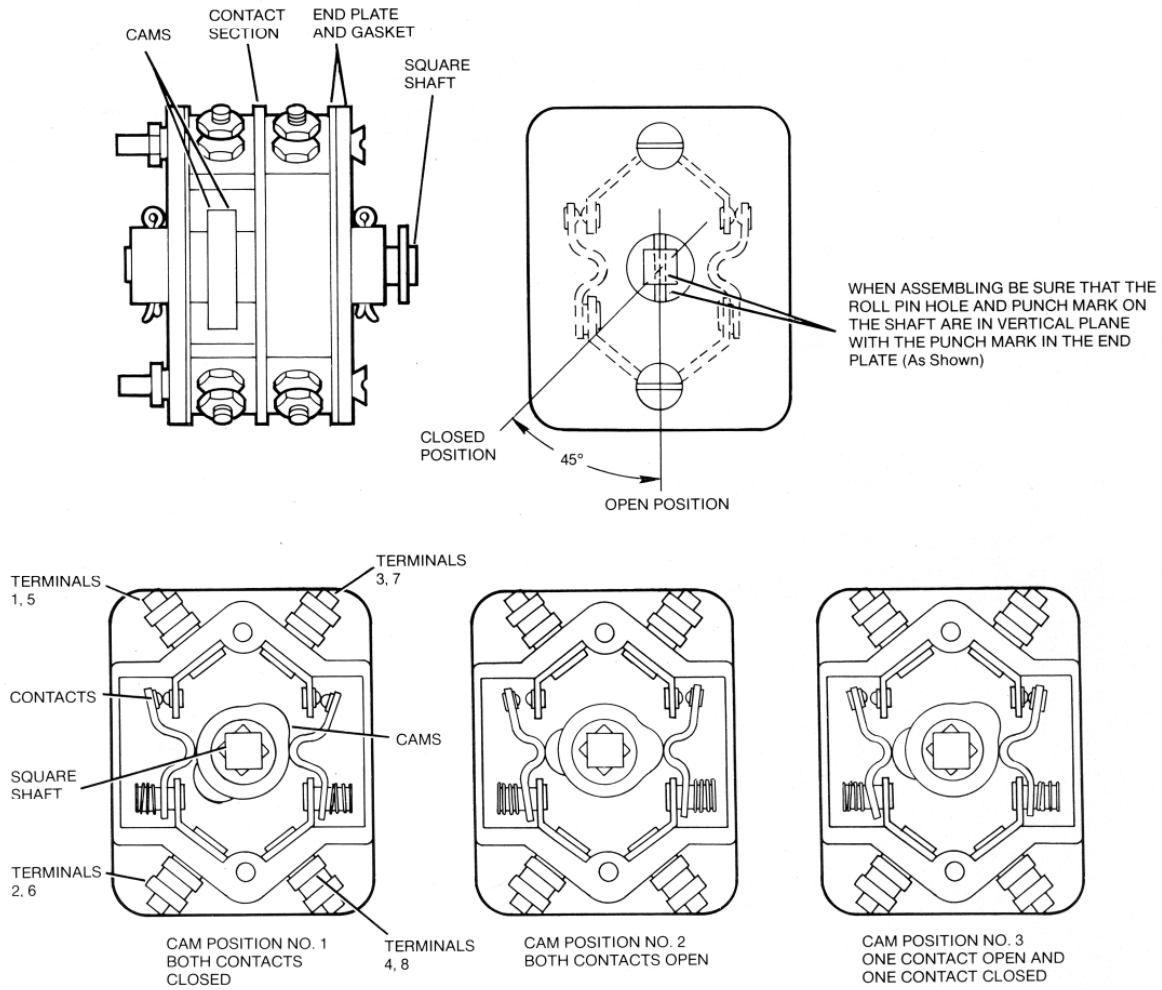

Figure 13.
5. Starting with the rear switch section, lift the cams off the operating shaft, replacing the cams in one of the positions shown in Figure 13.